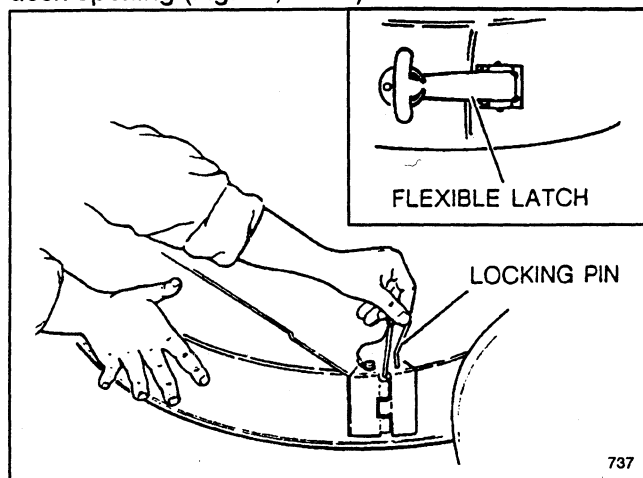
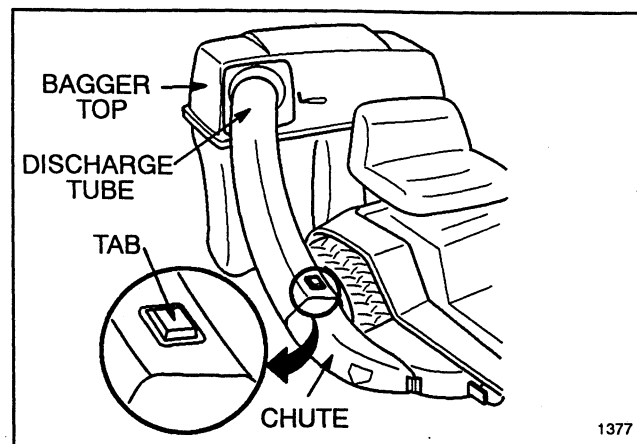

Figure 10
Figure 11
1. Lift deflector and slide front of chute into locking position behind pivot post on deck. Insert locking pin (Fig. 10).
2. Hook flexible latch into notched bracket at rear of deck opening (Fig. 10, insert).
3. Slide the discharge tube into the bagger top. Then push the discharge tube over the discharge elbow (Fig. 10). For proper fit, the square hole in the discharge tube fits over the raised tab on the discharge elbow (Fig. 11 inset).